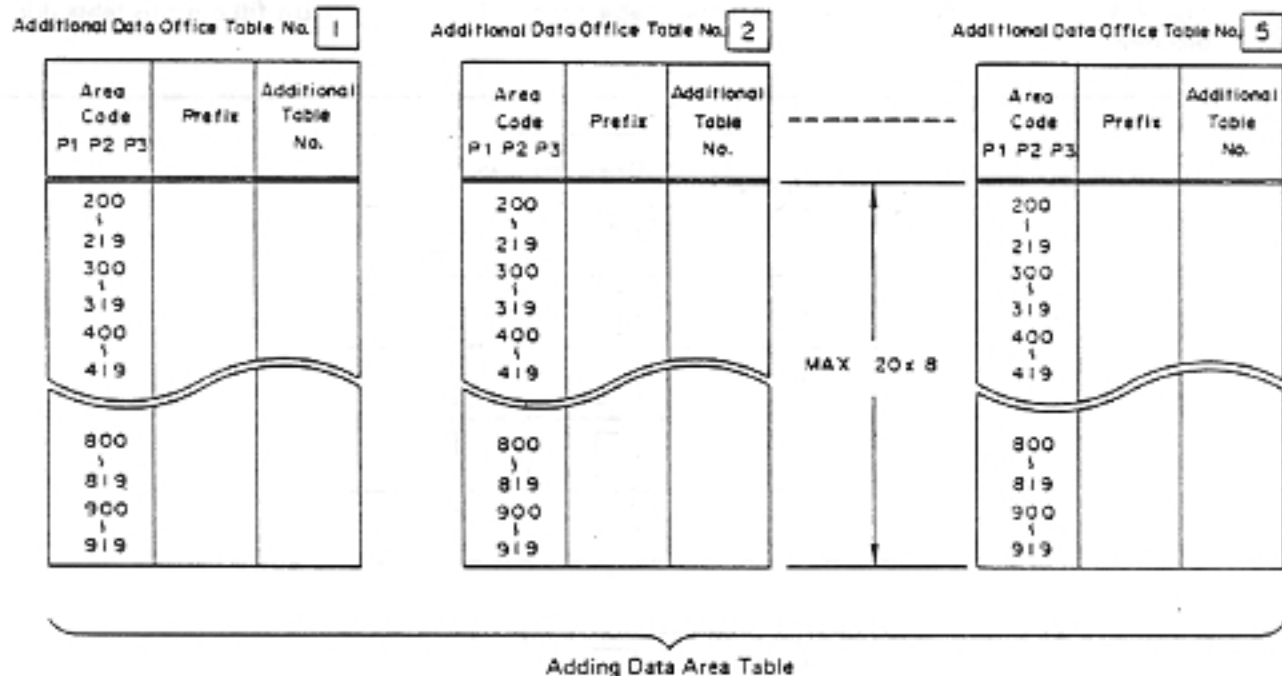

Figure 4.2.2.6.2.11 Adding Data Area Table Format
Note: There are five Adding Data Area Tables, each of which is so formatted that a prefix may be registered for each area code, and an index number may be entered in the adding table column (clarified below). The index number points the adding table where data to be added to the dial data area stored. Area codes are not consecutive, but are broken down into 20 by 8 blocks, as shown in Figure 4.2.2.6.2.11. These tables must be filled out by the installer during planning.
The system selects one of the tables shown in Figure 4.2.2.6.2.11 from the Adding Data Area/Office Table No. selected in item 6.
- (2) The system searches the Adding Data Area Table selected in item (1), example 1, for the area code registered in the input dial table (Figure 4.2.2.6.2.1) and selects the prefix and Adding Table No. registered there. The system stores in memory whether to add a "1" to the dial data to be sent, depending on whether the prefix "1" has been entered. The system then proceeds to referring to the Adding Table indicated by the selected Adding Table No.